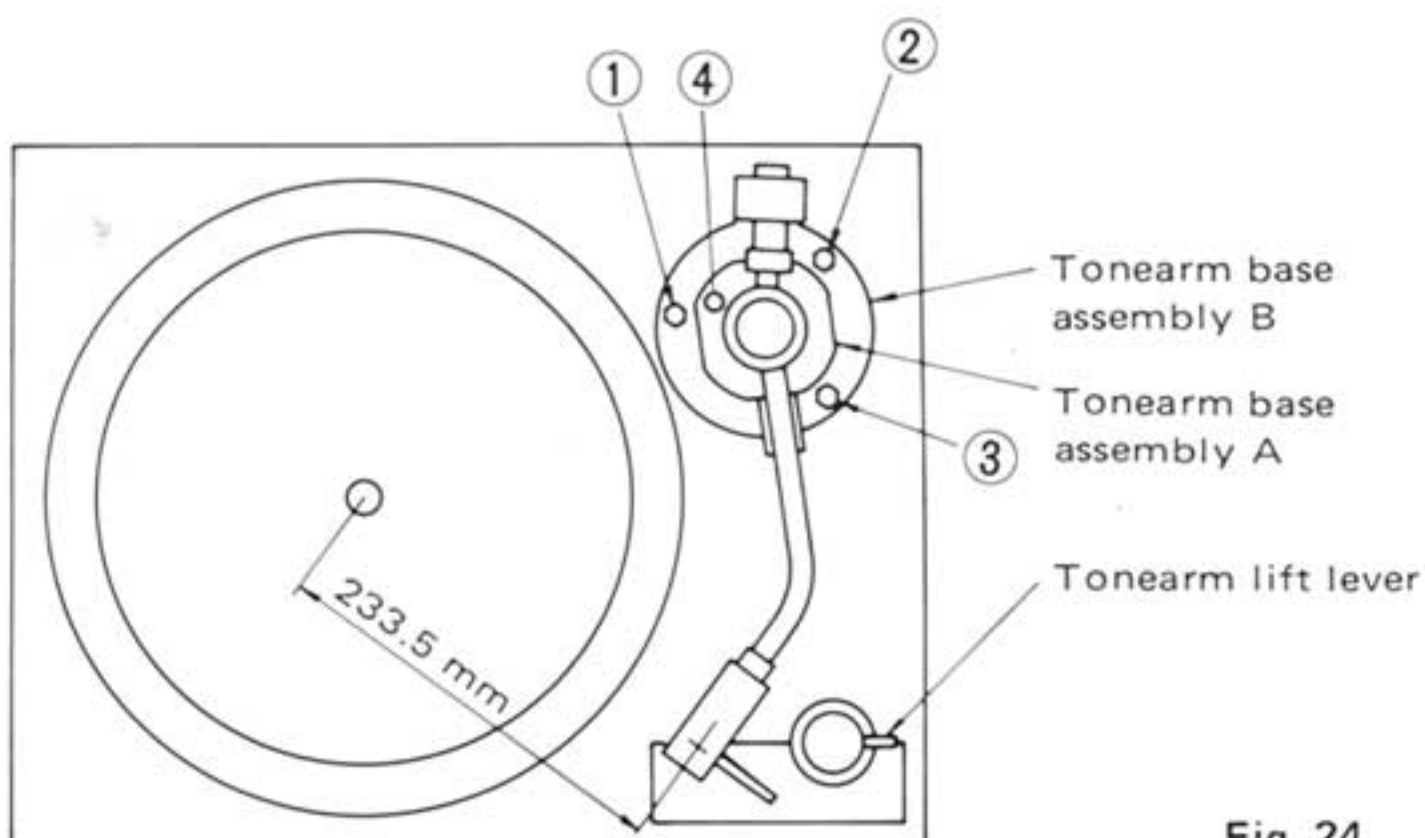

Fig. 24
1. Turn the anti-skating knob until the "0" mark on the anti-skating dial is aligned with the index line. If not aligned, zero balance adjustment will not be correct due to sliding movement of the tonearm. (Fig. 24)
- The adjustor is accessible in hole ④ in Fig. 24.
- Play the final part of the record from the point just before the stylus enters the lead-out groove by moving the tonearm lift lever (Fig. 24) downward.